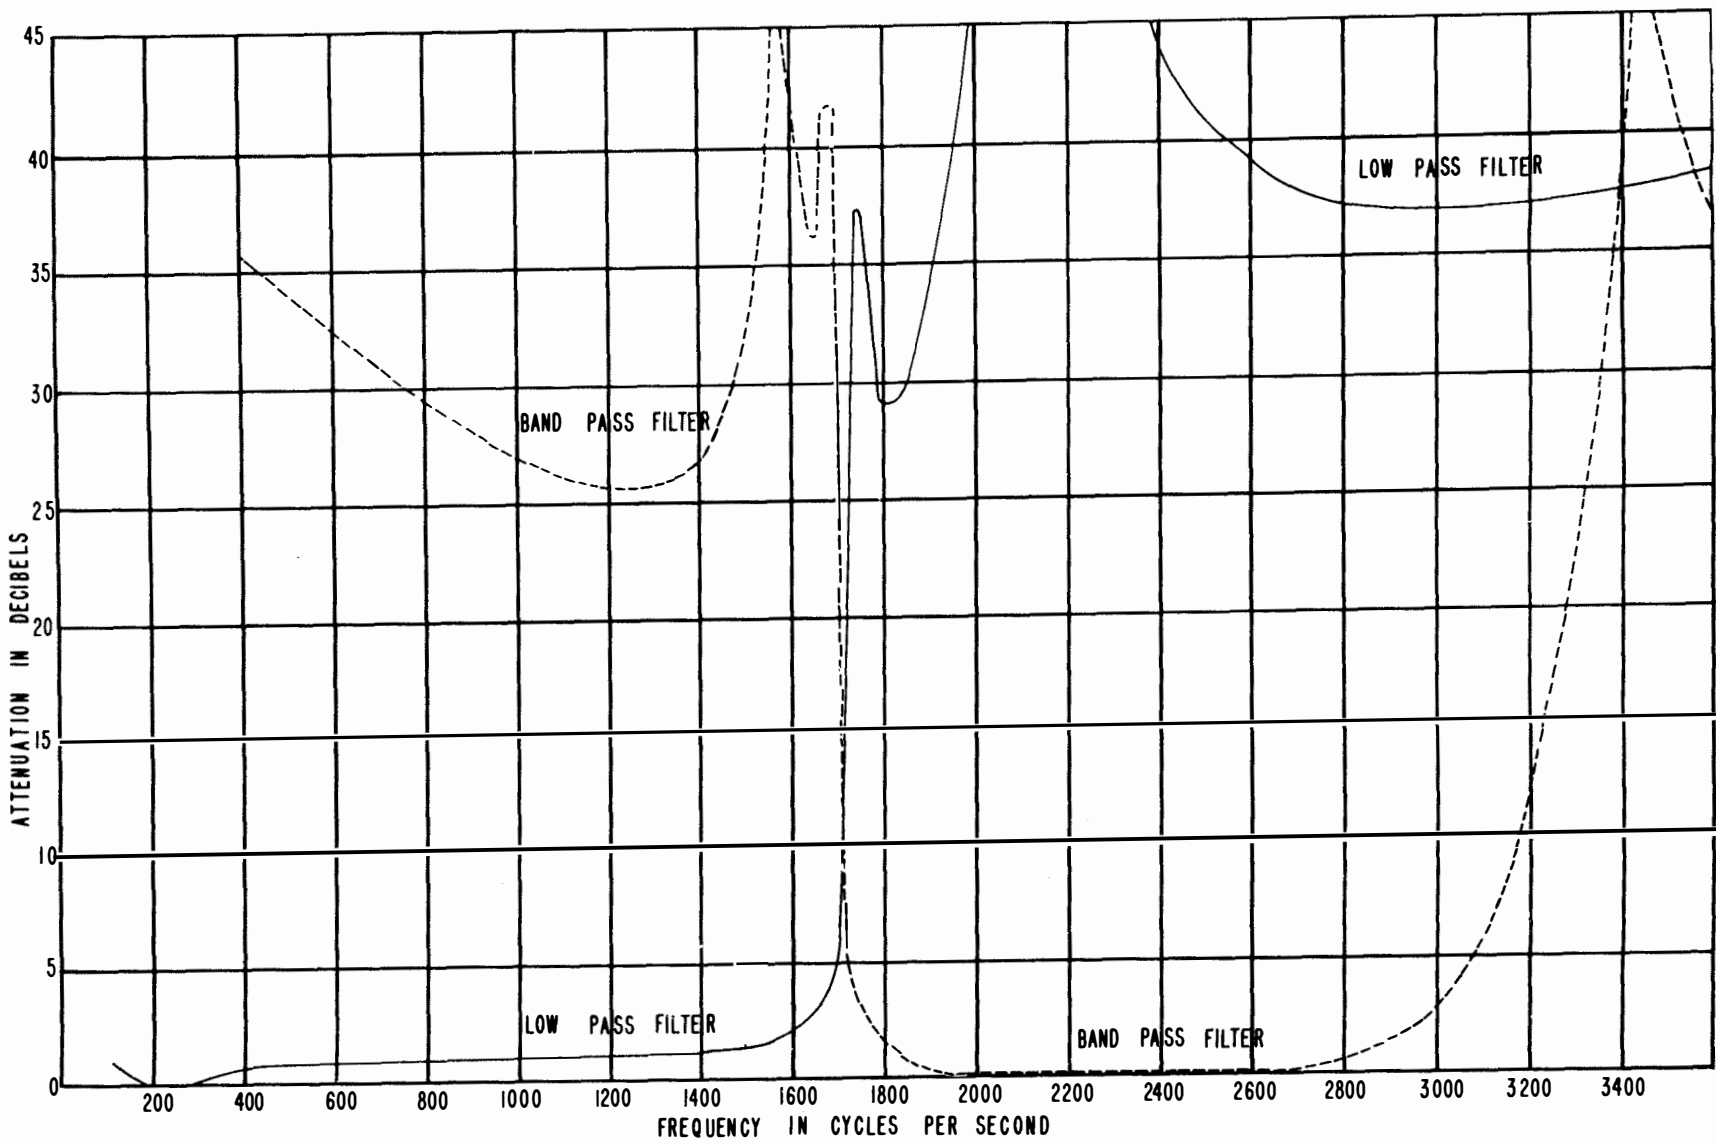

Figure 2-26. Curves Showing the Frequency Response of Group Modulator Band-Pass Filter and Low-Pass Filter
a. **BLOCK DIAGRAM.** Figure 2-16 shows the principal circuits of Electronic Frequency Converter CV-243A/FCC-3. The input audio signals in the frequency range of 382.5 to 1657.5 cycles are attenuated and applied to the modulator diode bridge, which is also supplied by a 3400 cycle crystal controlled carrier frequency. From the output of the modulator, the signal is impressed on a 3 db T-pad (used for impedance matching) and 1742.5 to 3017.5 cycle band-pass filter, Z2603, which selects the lower side band of the modulation. These frequencies are then applied to one input of a feedback amplifier, which has provisions for combining, across a common plate load, the converted signals with the normal (or unconverted) signals in the 382.5 to 1657.5 cycle band. Thus, the output of the next amplifier would contain 16 signal frequencies in the range of 382.5 to 3017.5 cycles. A transformer is provided at this point to match the amplifier to the 600 ohm line and isolate the output leads from ground. An ATTENUATOR allows the output level to be set at the desired line level. Line jacks are provided on the two incoming lines and on the output line. These jacks allow for the front panel patching of circuits into the equipment other than the circuits normally connected to the rear terminal board. They are also used to measure line levels, although all measurements taken on line jacks must be made with a meter of 600 ohms internal impedance. A high impedance meter must be used on the output monitor jacks, the 85 cycle jacks, and the 3400 cycle jacks. As seen on the frequency response curve of filter Z2603 shown in figure 2-26, the output levels of the channels lying near the cut-off frequencies of the filter will be less than the center frequency channels by about 3 db.
front panel variable ATTENUATOR R2756. This ATTENUATOR is used to set line levels at approximately 1 dbm, the normal maximum level on a fading radio circuit. The signals to be converted are transmitted by the band-pass filter Z2702 and applied to the ring modulator where they are mixed with 3400 cps carrier voltage. This ring modulator operates in a similar manner to the one described for the Electronic Frequency Converter CV-243A/FCC-3. Signals below 1657.5 cycles are passed by filter Z-2703 (frequency response curve shown in figure 2-26) and applied to the amplifier.
The Electronic Frequency Converter CV-243A/FCC-3 uses a band-pass filter with a response curve as shown on figure 2-26. This filter selects the converted signals in the frequency range of 1742.5 cps to 3017.5 cps at the output of the modulator bridge and transmits these frequencies to the line amplifier.
The Electronic Frequency Converter CV-244A/FCC-3 uses the same band-pass filter as used in the Electronic Frequency Converter CV-243A/FCC-3 and a low-pass filter. The frequency response curves of these filters are shown in figure 2-26. The band-pass